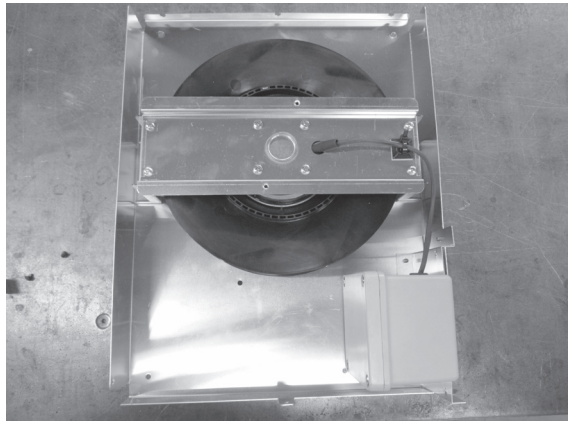

Figure 2.7
3. The HEAT-OUT-GAS base should look like the picture in Figure 2.7.